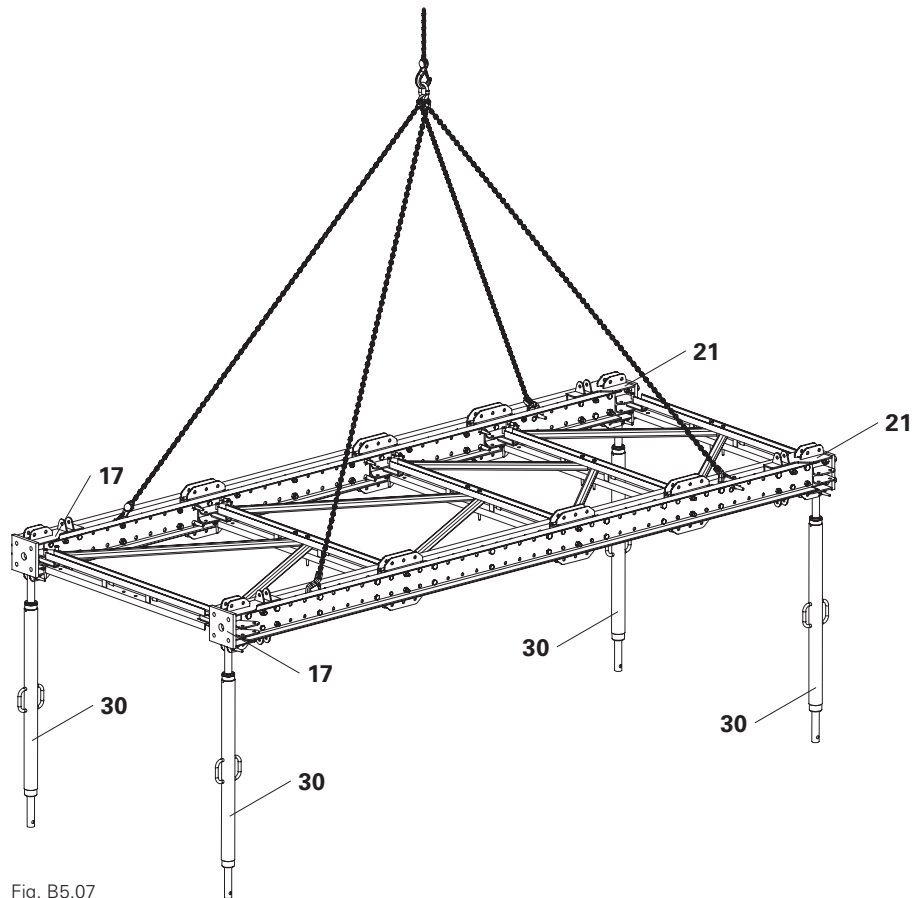

Fig. B5.07
2. Connect 2x heavy-duty spindles SLS (30) each to the prop bases VST 48 (17) and prop connectors VST 48 (21) by means of 1x fitting pin \varnothing 21 mm (9) each.(Fig. B5.07)